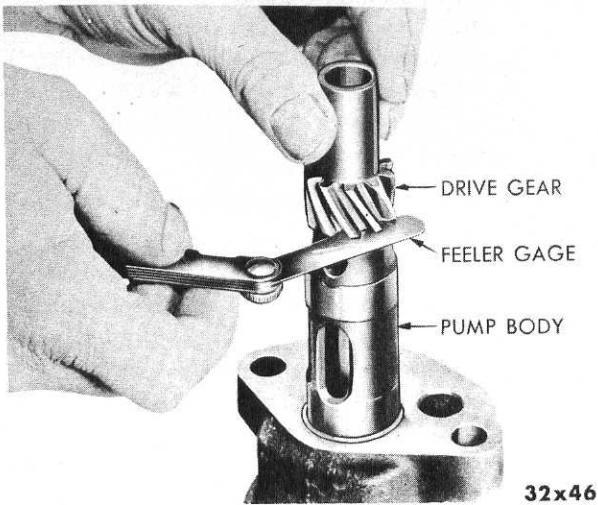

Fig. 69—Measuring End Play
- (1) When installing a new inner rotor on the drive shaft, press the rotor on until the end of the shaft is flush with face of the gear. When pressing the rotor on the shaft, be sure it is square with shaft. Drill a pin hole, using a $\frac{5}{32}$ inch drill and install pin.
- (2) Slide shaft and rotor assembly into pump body.
- (3) Press the drive gear on the shaft until end play of the shaft is from .003 to .005 inch. Press the rotor down in the body with the hand and measure clearance with a feeler (Fig. 69). Install pin and peen over both ends. If pin holes do not line up, drill a new pin hole through gear and shaft, using a $\frac{5}{32}$ inch drill. (Drill the hole at right angles to other holes.)
- (4) Install the outer rotor in pump body.
- (5) Install a new cover gasket.
- (6) Install the cover and tighten screws evenly.